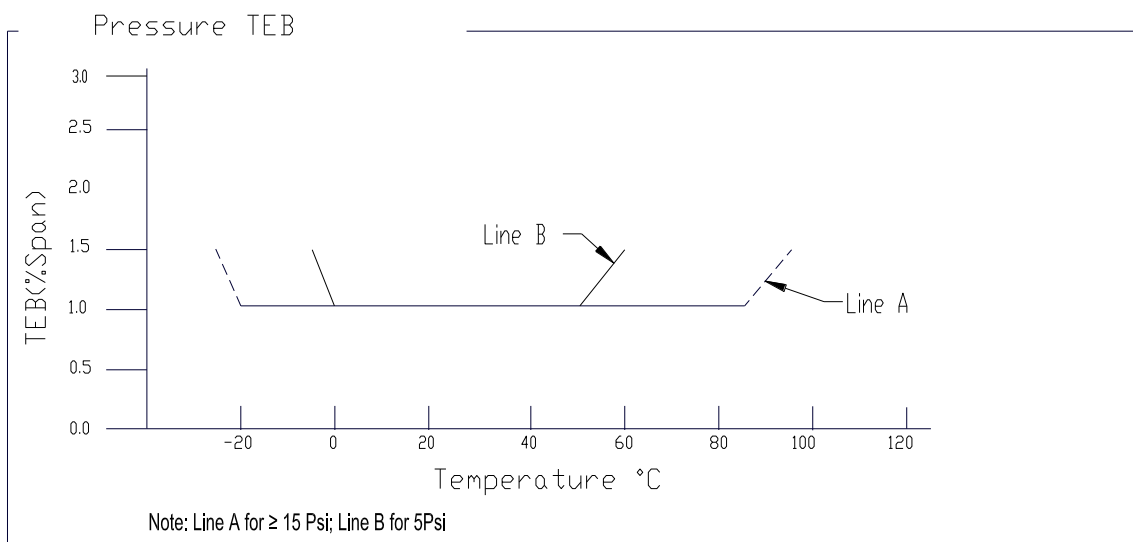

Fig 3
1. Measured at vacuum for absolute(A), ambient for gage(G) and sealed gage(S). Output is not ratiometric to supply voltage.
3. Total Error Band: includes calibration errors and temperature effects over the compensated range. See Figure 3.